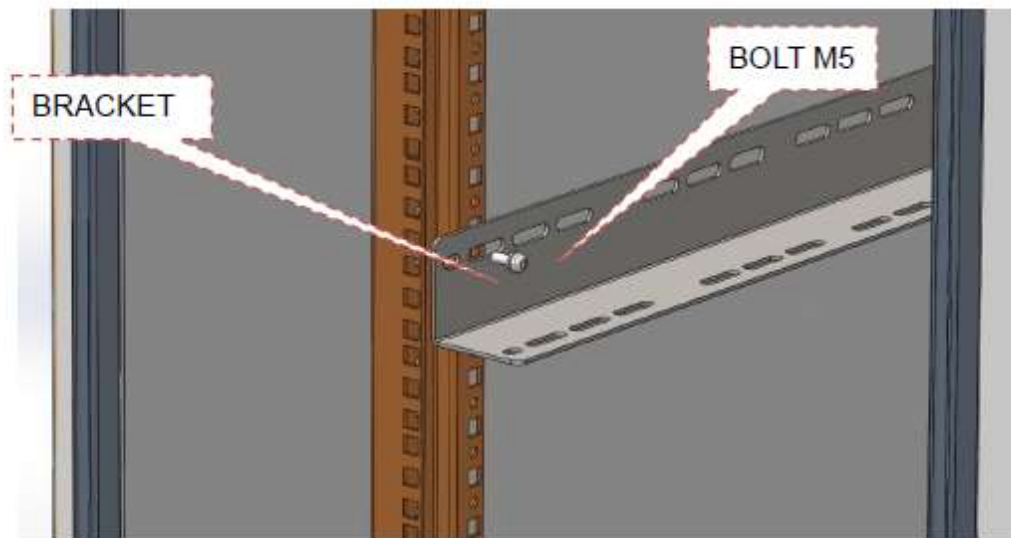

Figure 3-6 Drill holes and Install the Mounting rack on wall
1. Install bracket on the cabinet with the screw. as shown in Figure 3-5. Attention: Please pay attention to mounting of bracket. as shown in Figure 3-6.